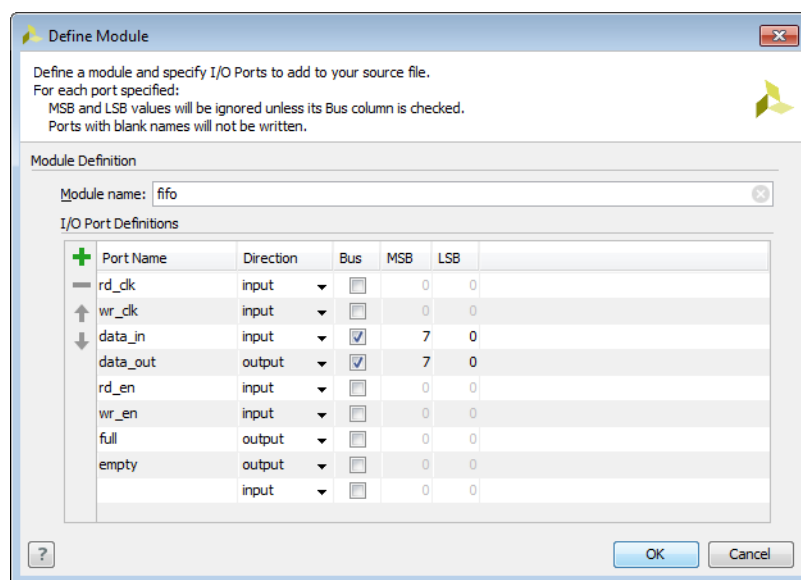

Figure 2-7: Define Module Dialog Box
8. *Optional:* If you used the **Create File** option in step 3, to create a new HDL module, the Define Modules dialog box (Figure 2-7) appears. In this dialog box, define the module or architecture in the Verilog, Verilog Header, SystemVerilog, or VHDL code using the following options, and click **OK**: